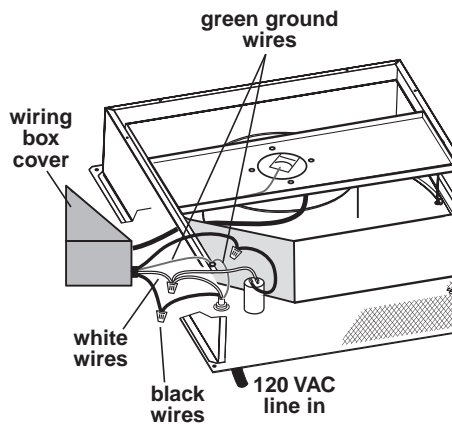

FIGURE 3
4. Make the electrical connections. (See **FIGURE 3** and wiring diagram.)